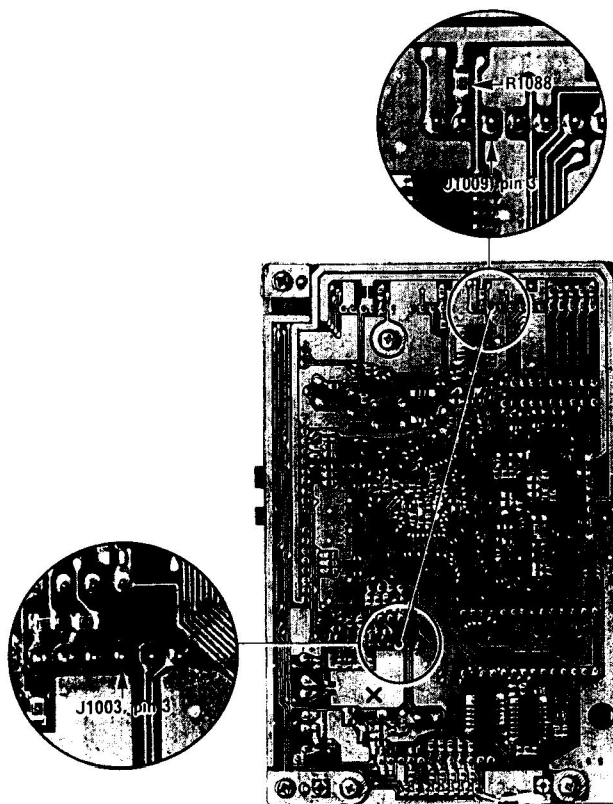

Fig. 1 CNTL-1 Unit Modification Points
tween J1003, pin 3 and J1009, pin 3 (see Figure 1).
- On the solder-side of the CNTL-1 Unit PCB, locate 2-k Ω chip resistor R1088 (near J1009 pin 2). Remove this and install a leaded external miniature fuse rated for 500 mA (Fig. 1). *Caution: currents in excess of 750 mA may damage the PCB track on the D-SUB Unit, check your wiring and connections carefully!*